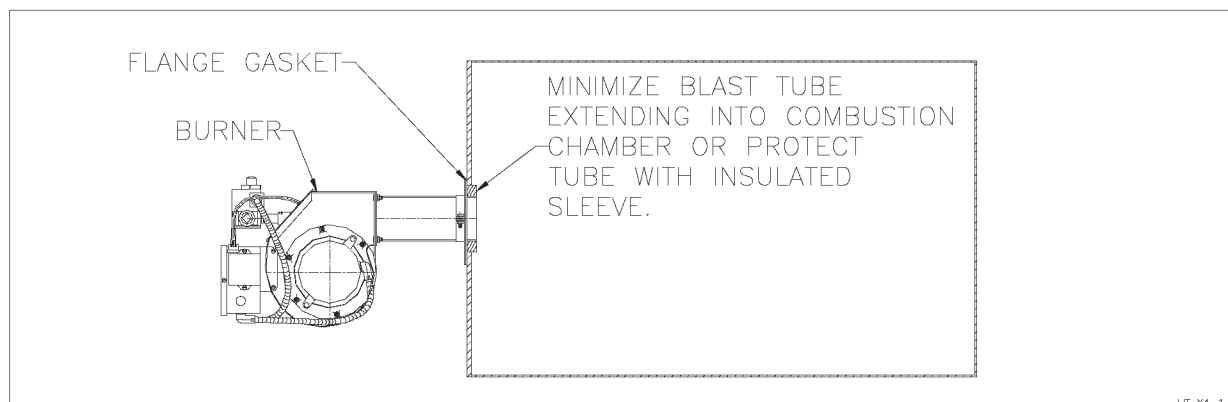

Figure 1: Mounting in Heat Exchanger
- 4.3 The burner can be mounted through a heat exchanger end wall or in the base of the boiler – **see Figures 1 and 2**. The opening for the burner blast tube should not be less than 4 ¼ inches in diameter to allow easy removal of the burner. The gap between the burner opening and the blast tube should be sealed with non-asbestos, high temperature rope or Ka-O-Wool. Where a new or replacement combustion chamber lining is to be used the chamber is to be built using 2300 degree F insulating firebrick or ceramic fiber blanket.